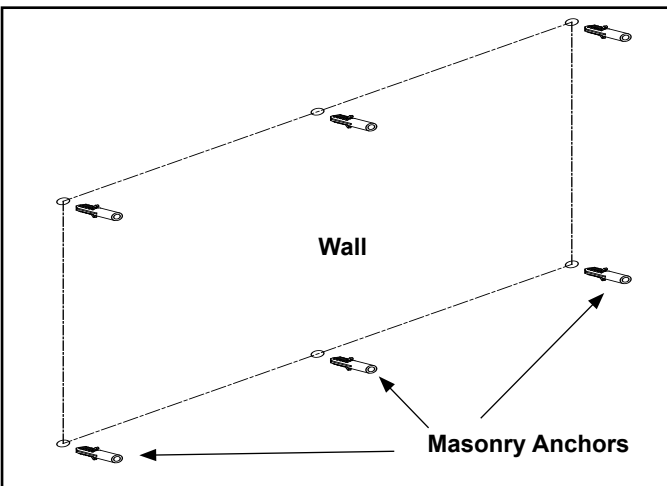

Figure 4.12 Masonry Anchor Placement
- In the marked locations, drill 5/16 in. diameter x 1-1/2 in. deep holes. See Figure 4.12.